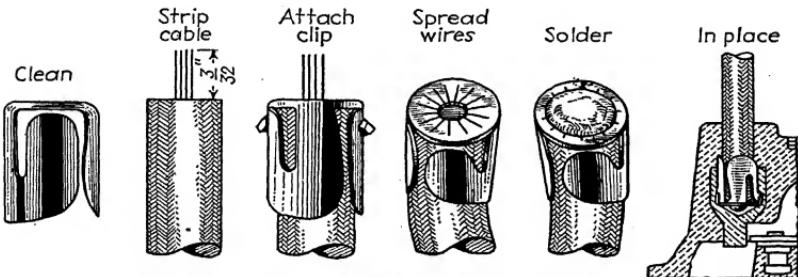

FIG. 17.—A method of soldering spring clips to cable ends to ensure good contacts.
**Ignition Cable Connections.**—It is important that a good contact be secured between the magneto and the ignition wire leads. Spring clips should be soldered to the ends of the cable wires. Be sure the metal of the clip is clean as shown in Fig. 17. Strip the end of the cable clear of insulation for about  $\frac{3}{32}$  in. Push the bare wires through the hole in the clip, as shown. Spread the wires out across the end of the clip, and then solder the wires to the end of the clip. Then, when the end of the cable is pushed into the magneto terminal, as shown at the right, there will be no question as to having a good contact.